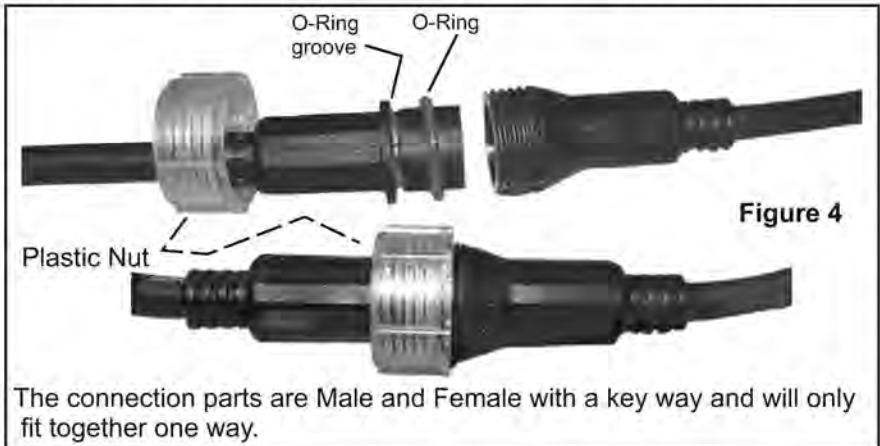

Figure 3
- 2) Feed power cable through return hole from inside the pool to the outside wall, pulling through all 25 feet of cable; then insert the light return pipe through the wall as in **fig. 3**.
- 3) Feed power cable through flat side of nut. When reaching return pipe hold cable flush with pipe & slide nut past the cable and thread onto return pipe. Be sure light inside pool is straight and hangs below return fitting - **see fig. 3**.